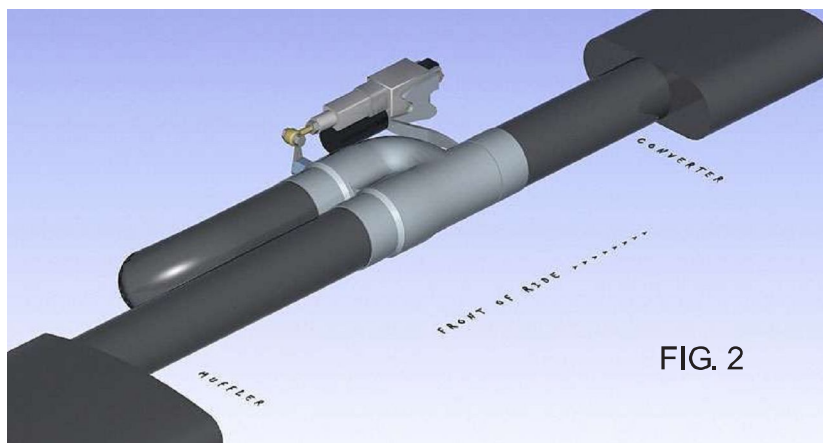

FIG. 2
**STEP 3-** FIND BEST LOCATION FOR NOWEEDS THIS WILL BE AFTER CATALYTIC CONVERTER (IF APPLICABLE) AND BEFORE MUFFLER (SEE FIG. 2). KEEP IN MIND A PERFORMANCE MUFFLER AND / OR EXIT PIPE (NOT INCLUDED) NEED TO BE ROUTED AS WELL. THIS TAKES SOME PLANNING AND EVEN A FEW MOCK-UP TESTS TO GET IT RIGHT.